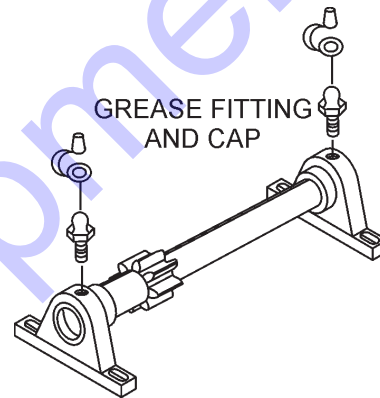

Figure 28. Grease Fittings (Countershaft)
There is 1 set of countershaft bearings (Figure 28) that will require lubrication. Lubricate the grease fitting for each countershaft bearing **every 40 hours of operation** using any grade lithium base grease.
2. Fill the wheel hub (Figure 28) with grease to the inside diameter of the outer races and also fill the hub grease cap. Reassemble the hub and mount the wheel. Then tighten the adjusting nut, at the same time turn the wheel in both directions, until there is a slight bind to be sure all the bearing surfaces are in contact.